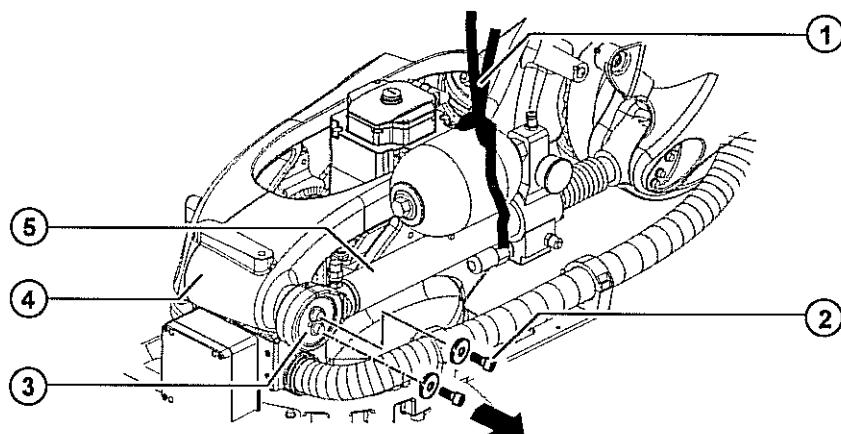

Fig. 12-21: Removing the counterbalancing system: rotating column
9. Remove 2 Allen screws and lock washers, and take the cover off the rotating column (>>> Fig. 12-21).